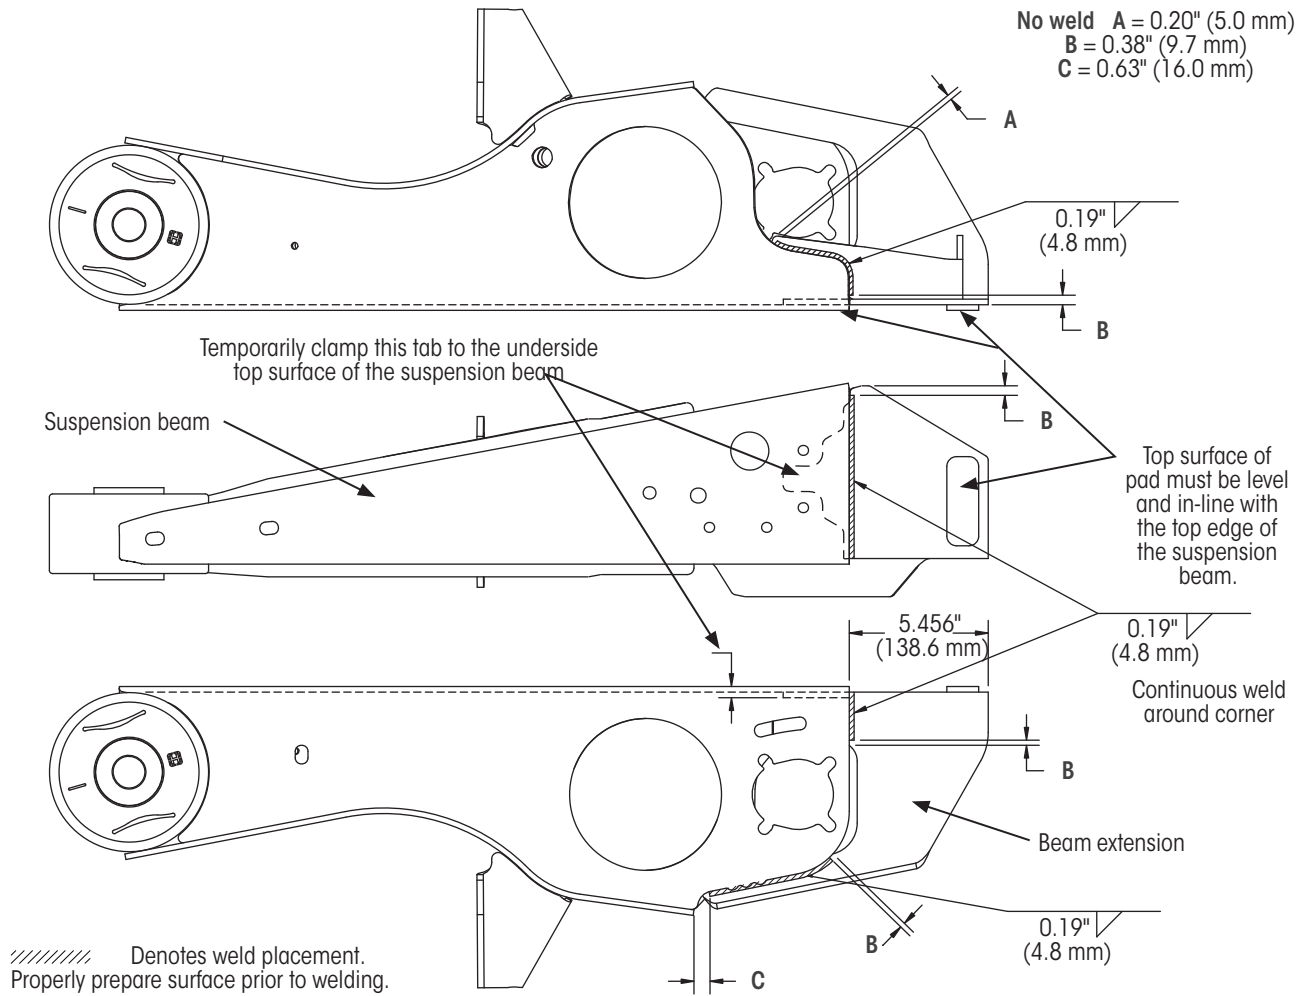

Figure 66: Rear narrow beam extension weld specifications
4. **Referring** to Figure 66, the applicable installation drawing1 and the weld parameters on **APPENDIX A: WELDING DETAILS** on page 44; **weld** the extension to the suspension beam as indicated.